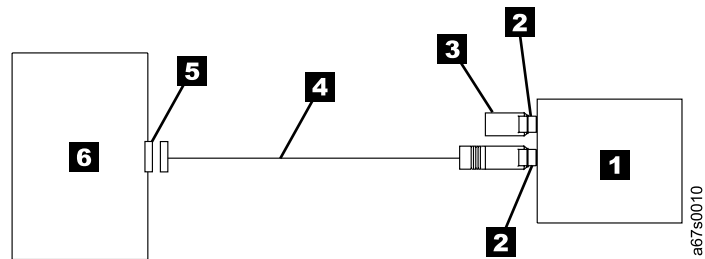

Figure 3. Example of connecting one SCSI device to the server. The view is from the top.
- **If the 3580 Tape Drive Is the Only Device On the SCSI Bus:** connect the SCSI bus cable to the server (see Figure 3).